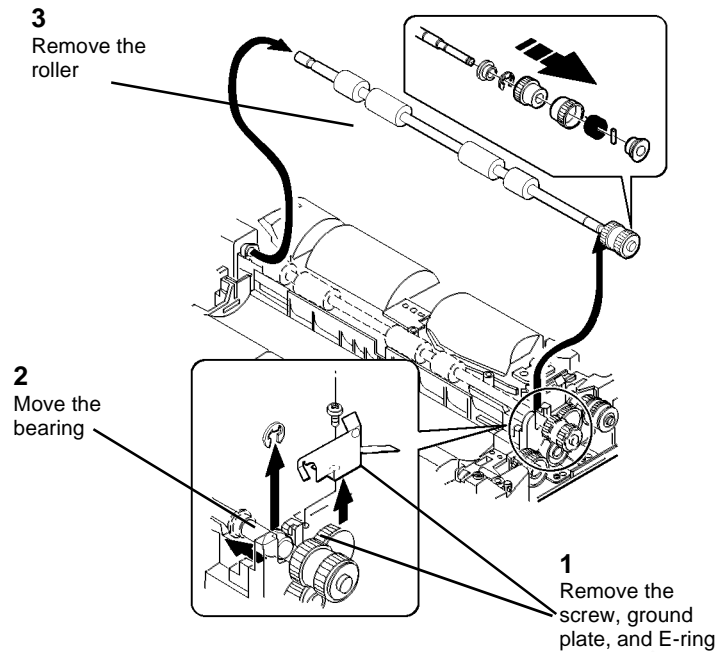

Figure 3 Removing the Lower Registration Roller
4. (Figure 3): Remove the Lower Registration Roller.